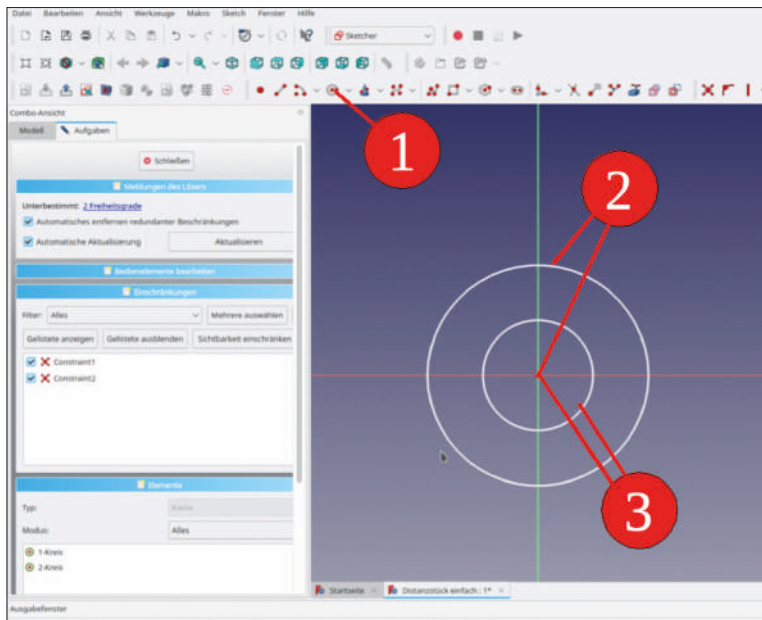

Figure 4-2
The spacer has a simple structure — its cross-section is described by just two circles, concentric to the origin. To start the sketch, select 'Create circle' from the sketcher menu (Figure 4-2, step 1). The mouse pointer will change its shape into a little crosshairs with an attached symbol. It is easy to overlook the small crosshairs, but as tiny as they are, they are the center of action. To start a circle, approach the origin with the little crosshairs, until the red dot representing the origin changes its color to yellow. Only then, the pointer is locked to the origin (any other point object which you want to select behaves like that). This is important! If you miss the origin (or target point) only by small amounts, additional degrees of freedom would result (here for the position of the circle center). With the origin clicked, you can pull the circle to some diameter, which will be specified more precisely in a later step. Using the same method, draw a second circle, concentric to the first one. When the second circle is finished, the 'circle' symbol still sticks to the mouse pointer, happily expecting more circles to come. To end the command, just issue a right-click into the blue. This works with all the other drawing commands in the same way.
**3.** In the Combo View to the left, the 'Elements' list has been populated with the two circles (Figure 4-2). Also, in the list 'Constraints', two symbols for 'Coincidence' are listed, because the two center points of the circles are constrained to coincide with the origin.